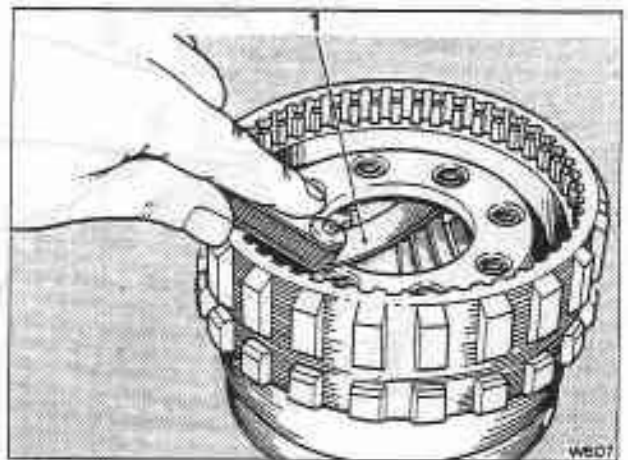

Fig. T20-11 Checking the output carrier pinion end-float
4. Check the end-float of the pinions with the aid of a feeler gauge (see fig. T20-11). The end-float should be between 0,23 mm and 0,61 mm (0,009 in and 0,024 in).